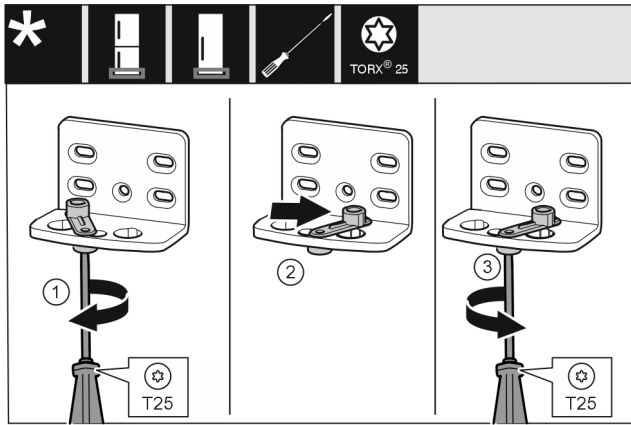

Fig. 44 *
- Use screwdriver to loosen the screw Fig. 44 (1).*
- Lift the door closing aid Fig. 44 (2) and turn 90° clockwise in the hole.*
- Tighten screw Fig. 44 (3) with screwdriver.*